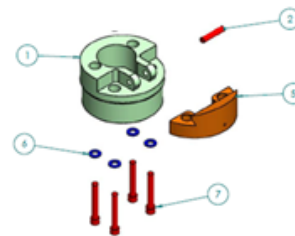

Figure 1
- If the hinge pin is in place (see detail 2 in figure 1), then replace the wedge!